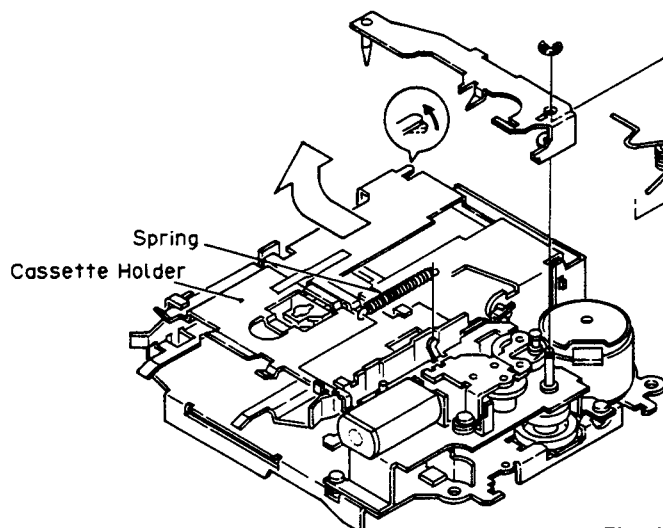

Fig. 14
- ① Remove the draw-in arm and the cassette holder (see Fig. 14).
- ② Remove the polyslider washer(s) located in the upper part of the reel collar. (Do not damage the collar.)
- ③ Remove the reel collar and the BT torque spring.
- ④ Remove the reel unit with ATSC (A) and the play idler gear (B) being shifted in the directions indicated by the arrows.
- ⑤ Apply grease to the $\phi 2$ portion of the shaft and the bearing surface additionally. (Be sure to keep the reflector out of touch with grease.)
- ⑥ Assemble a new reel unit for replacement, giving care to gears A and B.
- ⑦ Assemble the BT spring and the reel collar. Install the poly-washer(s) for fastening. (Be sure to keep the poly-washer(s) out of touch with grease.)
- ⑧ Use new washer(s).
Put the mechanism assy. in the eject or release state. (This operation may be carried out after the guide assy. is removed.) Remove the draw-in arm, the cassette holder and the guide assy. (see Fig. 14 and 16).